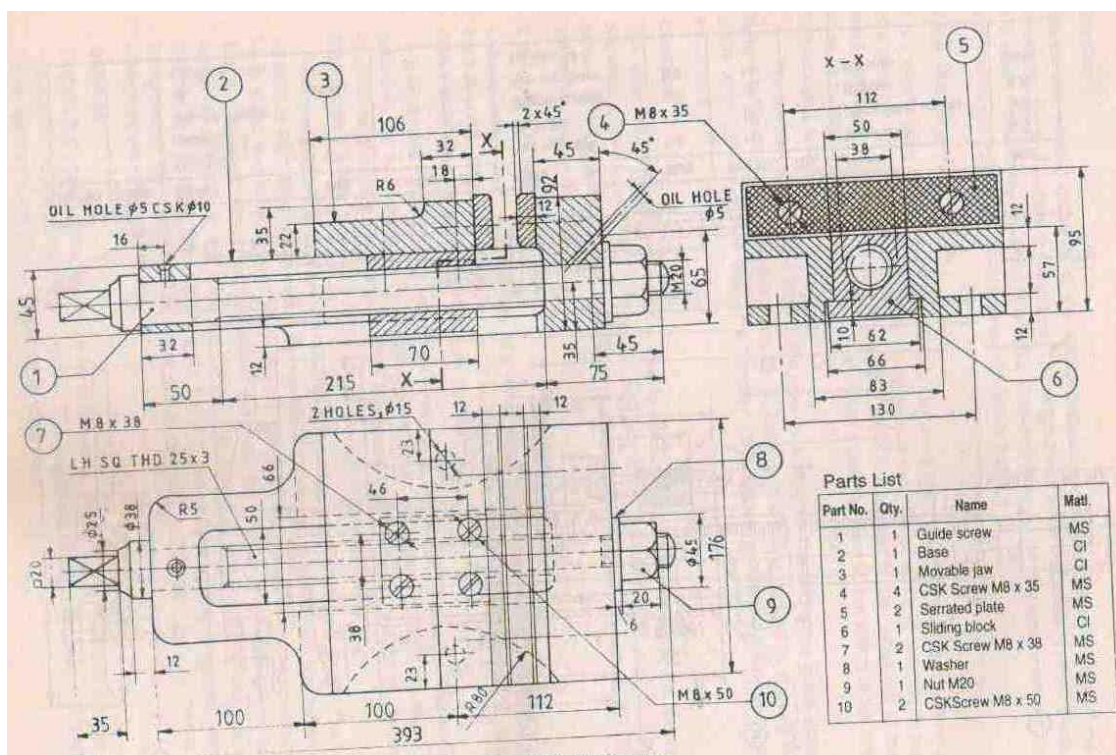

Figure 3 Assembly details of machine vice
1. The assembled view of machine vice is given in the figure 3. Draw the component drawing of base, guide screw and serrated plate with all dimensions.